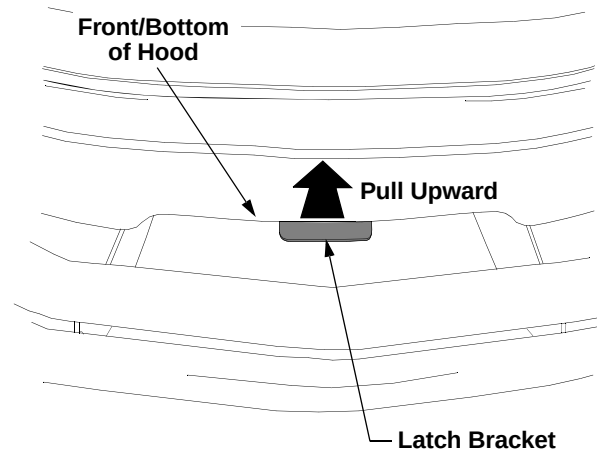

Figure 3-5
- Locate the latch bracket at the bottom/center of the front of the hood. See Figure 3-5.